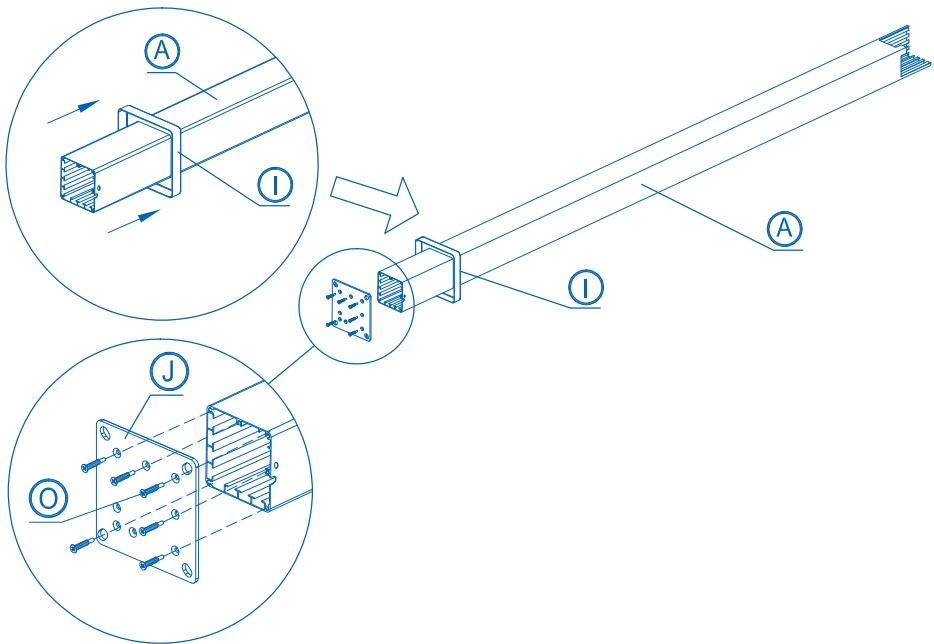

Figure 2.
Slide a collar (I) over the bottom of one of the posts (A) as shown in figure 2, with the rounded part of the collar facing towards the top of the leg. Position base plate (J) over the bottom of the leg section and affix to the leg using 6 bolts (O). Repeat this process for the other three legs.